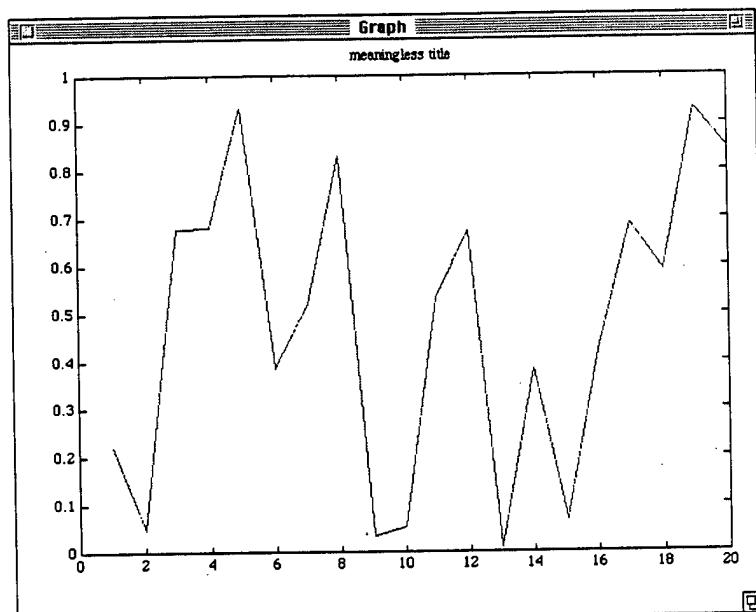

Figure 4.7: Result of `randplot(20)`
5. Type the command `>> randplot(20)`. A screen similar to Figure 4.7 should appear.